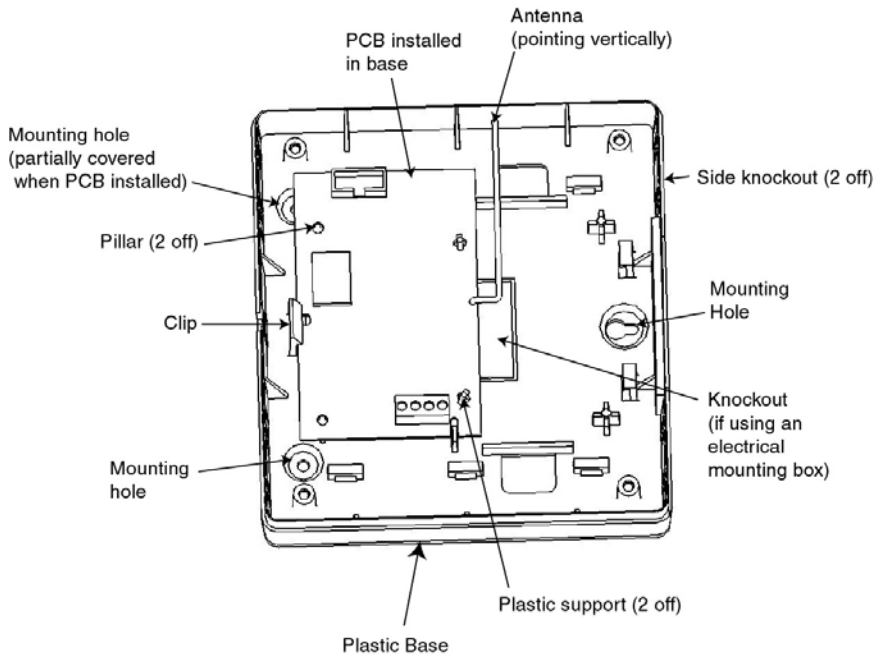

Figure 2. Plastic Base with PCB Installed
- The plastic base must be mounted so that when the PCB is installed, the antenna will point vertically (see **Figure 2, Plastic Base with PCB Installed**)